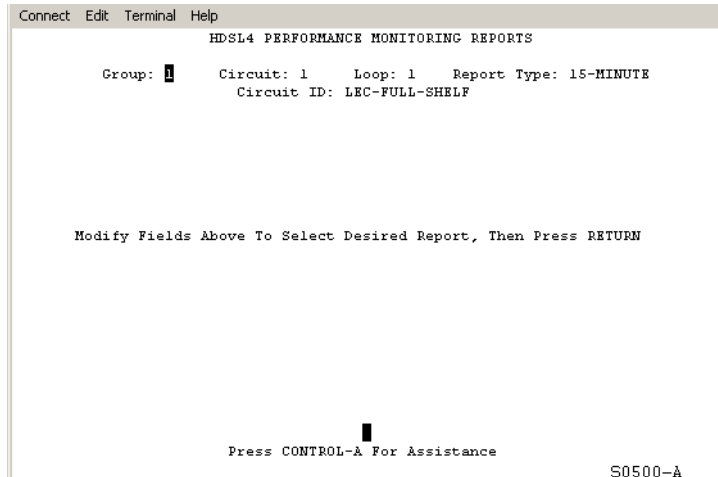

Figure 12. HDSL4 Performance Monitoring Reports Screen
- 2 From the Performance Monitoring menu, select **2. PM Reports**. The HDSL4 Performance Monitoring Reports screen appears (see Figure 12 on page 21).